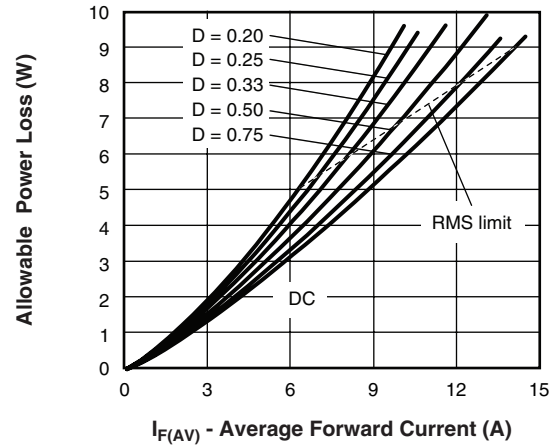

Fig. 6 - Maximum Average Forward Dissipation vs. Average Forward Current
- (1) Formula used: $T_C = T_J - (Pd + Pd_{REV}) \times R_{thJC}$;
- Pd = Forward power loss = $I_{F(AV)} \times V_{FM}$ at $(I_{F(AV)}/D)$ (see fig. 6);